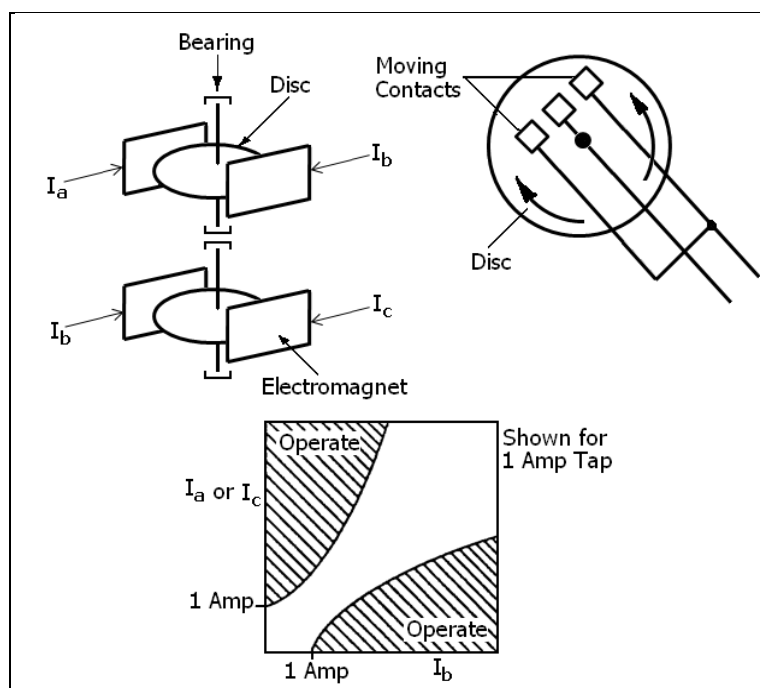

Fig. 2.7-1 Phase Unbalance Relay (46)
Fig. 2.7-1 shows phase balance relay (46), which contains two induction-disc units. One unit balances  $I_a$  against  $I_b$ , and the other balances  $I_b$  against  $I_c$ . When the currents become sufficiently unbalanced, the resultant torque is produced in one or both of the units, closing their contacts (which are connected in parallel in the trip circuit).